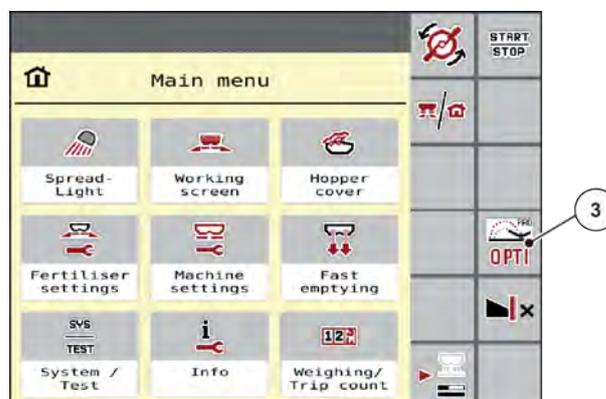

Fig. 15: OptiPoint activated in the main menu
- ▶ Press the “OPTI” function key to activate the headland mode. Or it can be activated in the main menu, see *Fig. 15 OptiPoint activated in the main menu*.